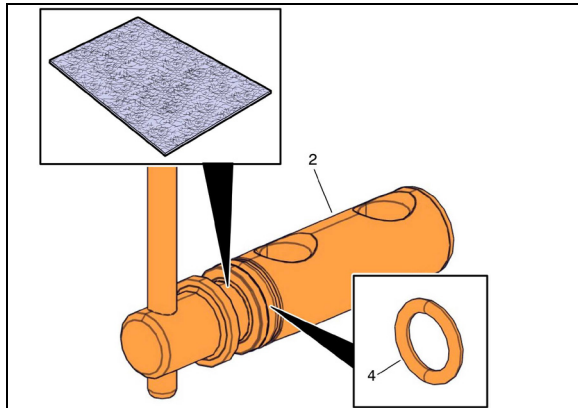

FIGURE 8: INSPECT THE O-RING (4) IN THE SPINDLE (2)
- Gently scrape by hand and remove any loose debris or corrosion from the spindle and coolant filter housing using an abrasive cleaning pad (Figure 8).
**Note:** Inspect the O-ring (4) in the spindle (2) for damaged due to corrosion or during removal. Replace the O-ring using part number 968725 if needed. Replace the spindle using part number 3979940 if needed.